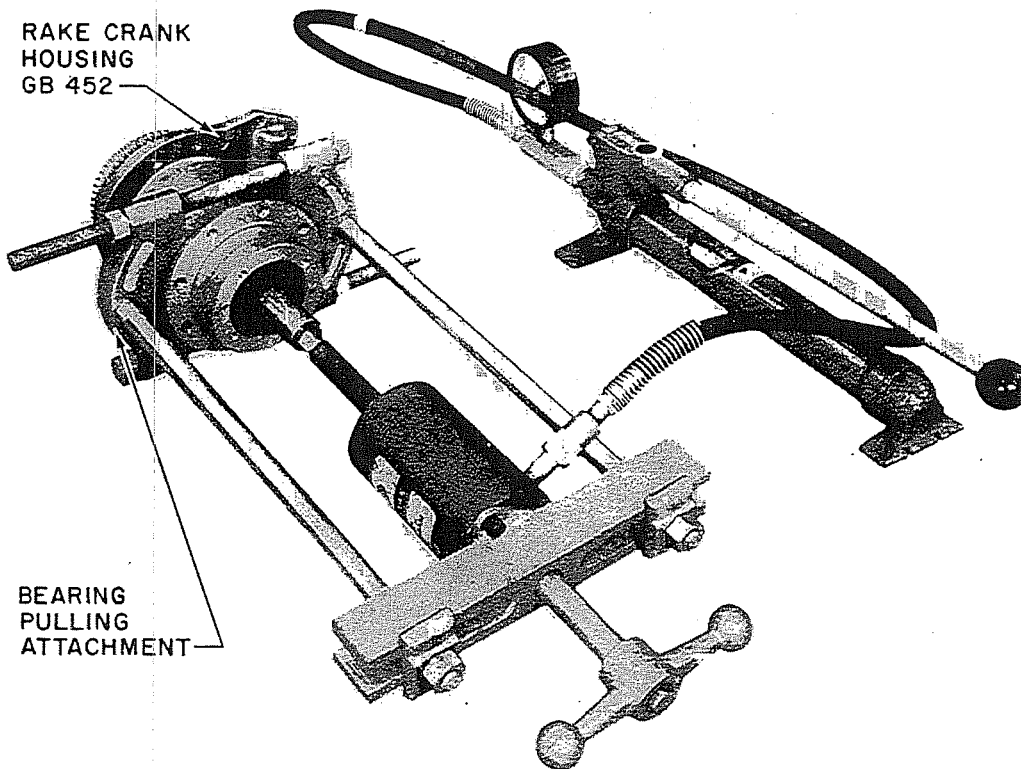

Figure 9. 4 to 1 Shaft, Removal of Rake Crank Housing GB452
- D. Secure the bearing pulling attachment behind the flange of Rake Crank Housing Assembly GB452 and apply pressure to the shaft (figure 9). This will remove the 4 to 1 Shaft Assembly from the rake crank housing.